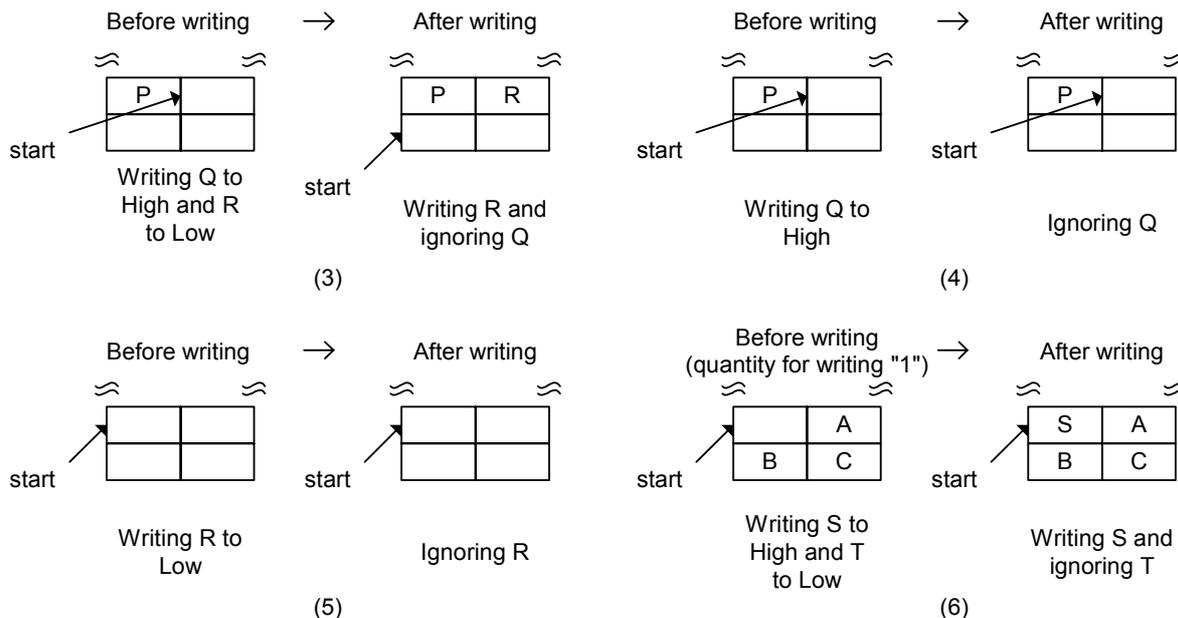

Fig.1.84 FIFO writing processing (operation requiring caution)
If byte writing is performed from a state in which byte boundaries exist in the FIFO, writing to High will be ignored, and only writing to Low will be performed (Fig.1.84 (3)). That is, the operation is identical to that when writing to Low. If writing to High only from a state in which byte boundaries exist in the FIFO, writing will be ignored (Fig.1.84 (4)).
If writing only to Low from a state in which byte boundaries do not exist in the FIFO, this writing will be ignored (Fig.1.84 (5)). If word writing from a state in which byte boundaries do not exist in the FIFO and the quantity that can be written is “1,” writing to Low will be ignored, and only writing to High will be performed (Fig.1.84 (6)). That is, the operation is identical to that when writing to High.